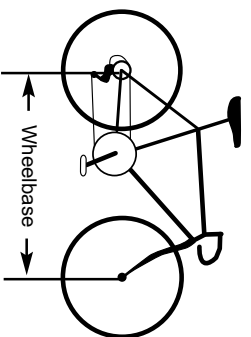

Fig. 1
2. The distance from the midpoint between the two rear roller drums to the center of the front roller drum is indicated on the decal applied to the frame rail (C) above the axle holes.
3. Measure the wheelbase of the bicycle to be used on the rollers. See Figure 1.